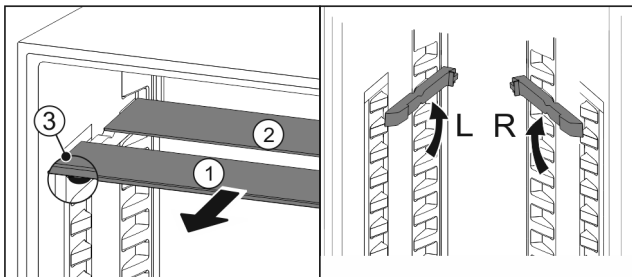

Fig. 76
- ▶ Pull the glass panels out Fig. 76 (1) from the front, one at a time.
- ▷ The glass panel Fig. 76 (1) with the trim strip is at the front.
- ▷ The stops Fig. 76 (3) point downward.